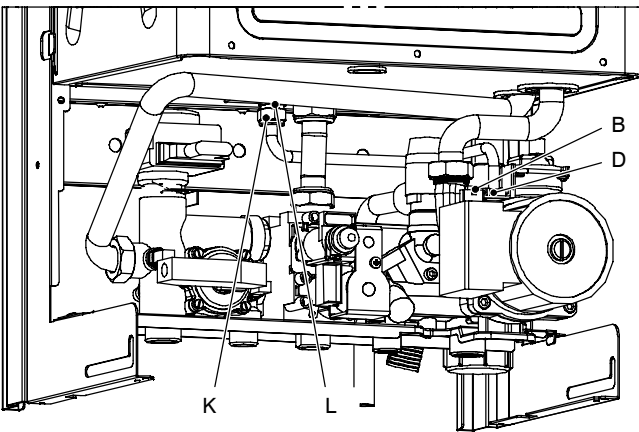

Fig. 56
- 2 Completely unscrew the connection K, the lock-nut L (Fig. 56) and remove the expansion vessel from the top of the boiler.